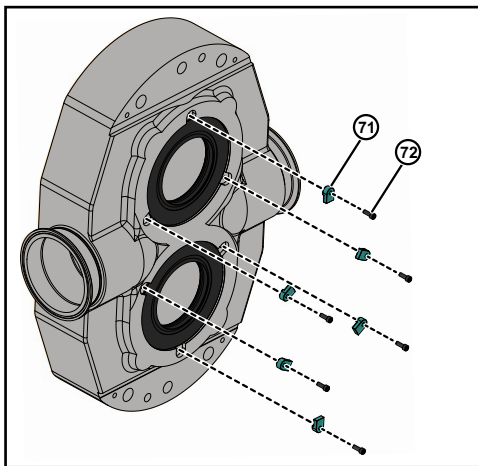

Figure 85 - Install Screws and Retainer-tab
6. Install all the retainer-tab (71) and retainer bolts (72) onto the pump body, as shown in Figure 85.